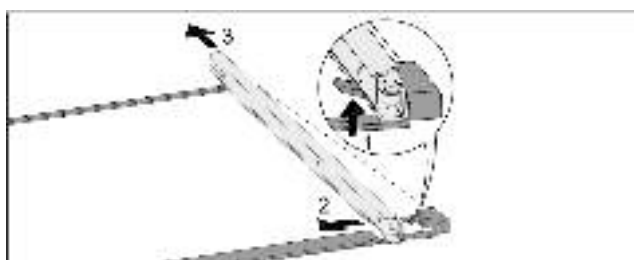

Fig. 131 Glass shelf with rails
- Push up front click-in hooks. Fig. 131 (1)
- Slide pull-out rails to the side Fig. 131 (2) and backwards Fig. 131 (3).